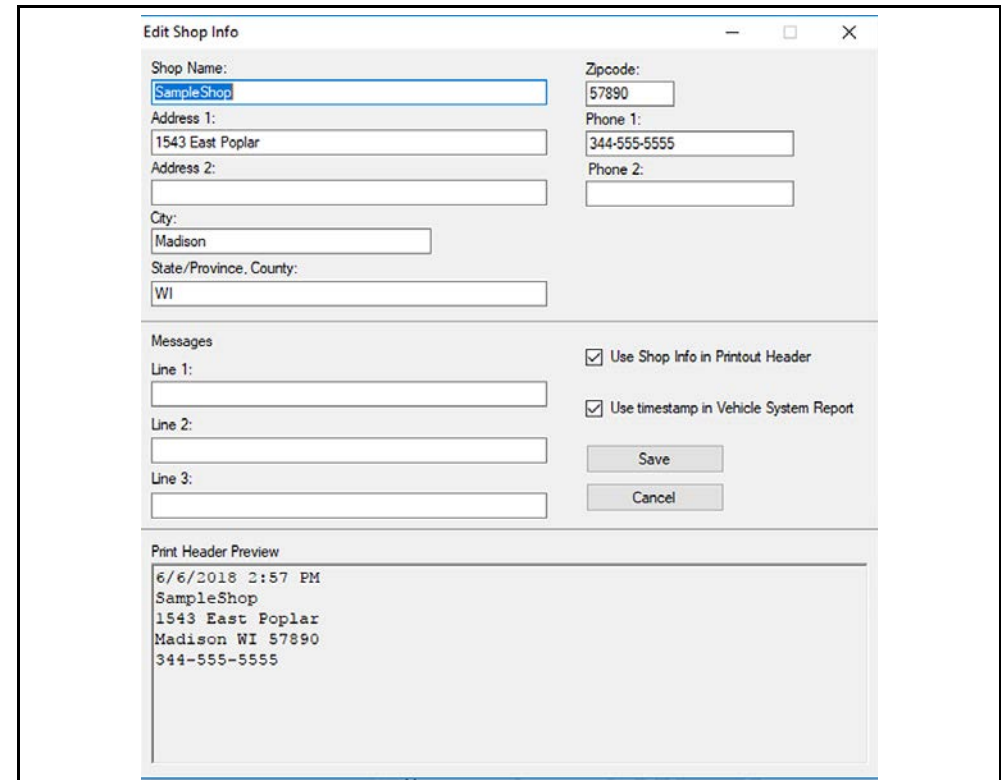

Figure 13-9
2. The **Shop Info** dialog box opens (Figure 13-9) allowing you to enter the name address, and phone number for your shop. This information is included as a header on the report.
A preview panel at the bottom of the box shows how the information will appear on a print out (Figure 13-9).
3. Check the **“Use Shop Info in Printout Header”** box to show the Shop Info in the printout (Figure 13-9).
4. Check the **“Use timestamp in Vehicle System Report”** box to show the time the vehicle was scanned in the printout (Figure 13-9).
5. When you are finished editing, select **Save** (Figure 13-9) to save the information and close the dialog box.